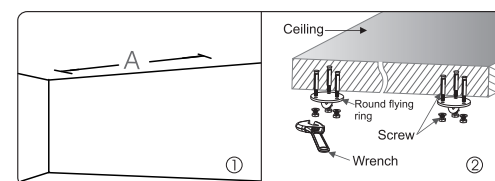

Figure 1
1. To drill 6 proper holes according to the distance between two hooks, and then hammer the screws (not provided) into the holes, as well as fasten the round flying rings (not provided, make sure each of them can endure at least 100Kg weight to avoid falling down). (Figure 1)